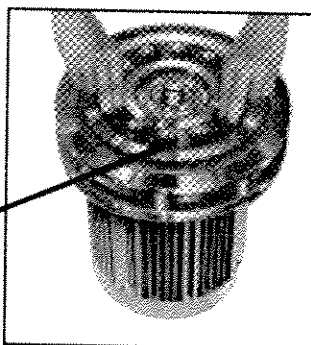

Fig. 21
8. The eccentric bearing assembly (3-04) can be removed from the motor shaft after taking out the retaining ring (3-10), or the bearings (3-02), figures 21, 22.
5. Insert the spacer and the inner bearing raceway. Secure them with the retaining ring (Fig. 21).